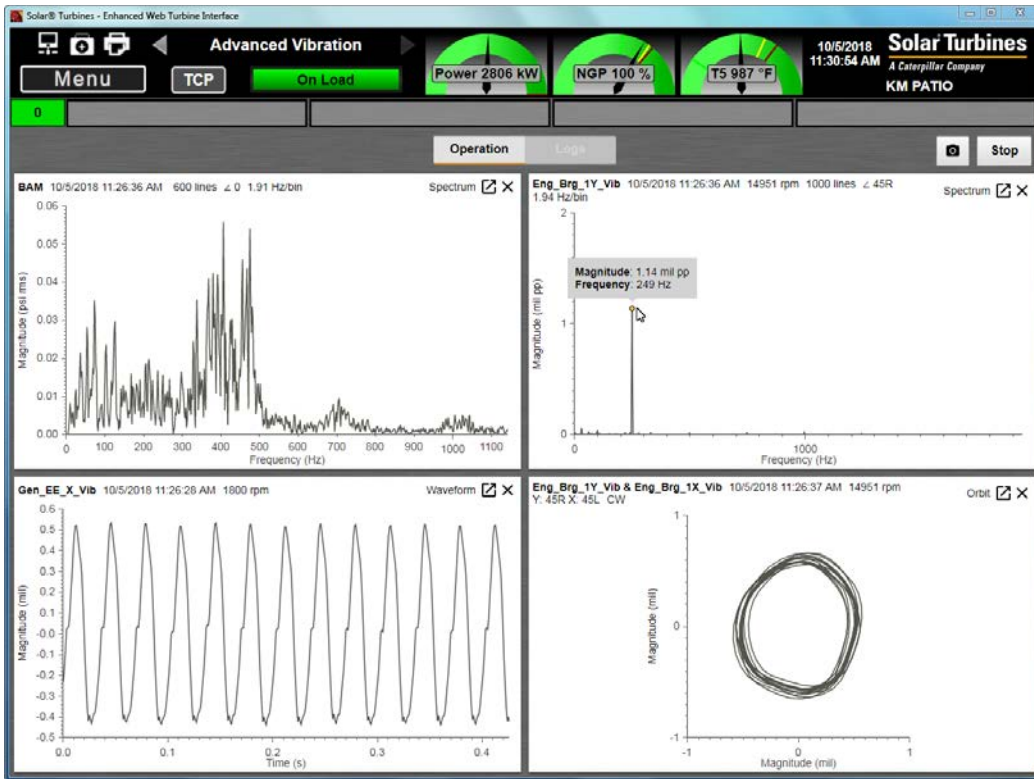

Figure 5. Advanced Vibration Screen
Figure 5 shows the live plot selection screen with the 3 different plot types shown:
1. The Spectrum plot (Figure 5, top left and right) displays the individual amplitudes at each frequency for a single channel. The top right plot also shows the “tool tip” feature, displayed when placing the cursor over a plot data point.
2. The Orbit plot (Figure 5, bottom right) shows the proximity probes’ displacement which indicates the movement of the shaft centerline with respect to the center of the bearing. It is an unfiltered orbit, showing the direct motion of the shaft.
3. The Time-Waveform plot (Figure 5, bottom left) shows an X-Y plot of signal amplitude versus time.